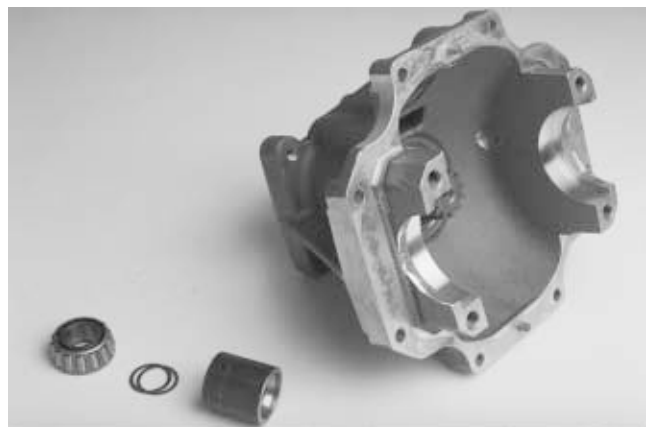

Figure 48
5. Install pinion gear (8) and bearing cone (9) into the carrier assembly (15). Place bearing spacer (24), shims (21), and bearing cone (22) on to the shaft of the pinion gear (Fig. 48).